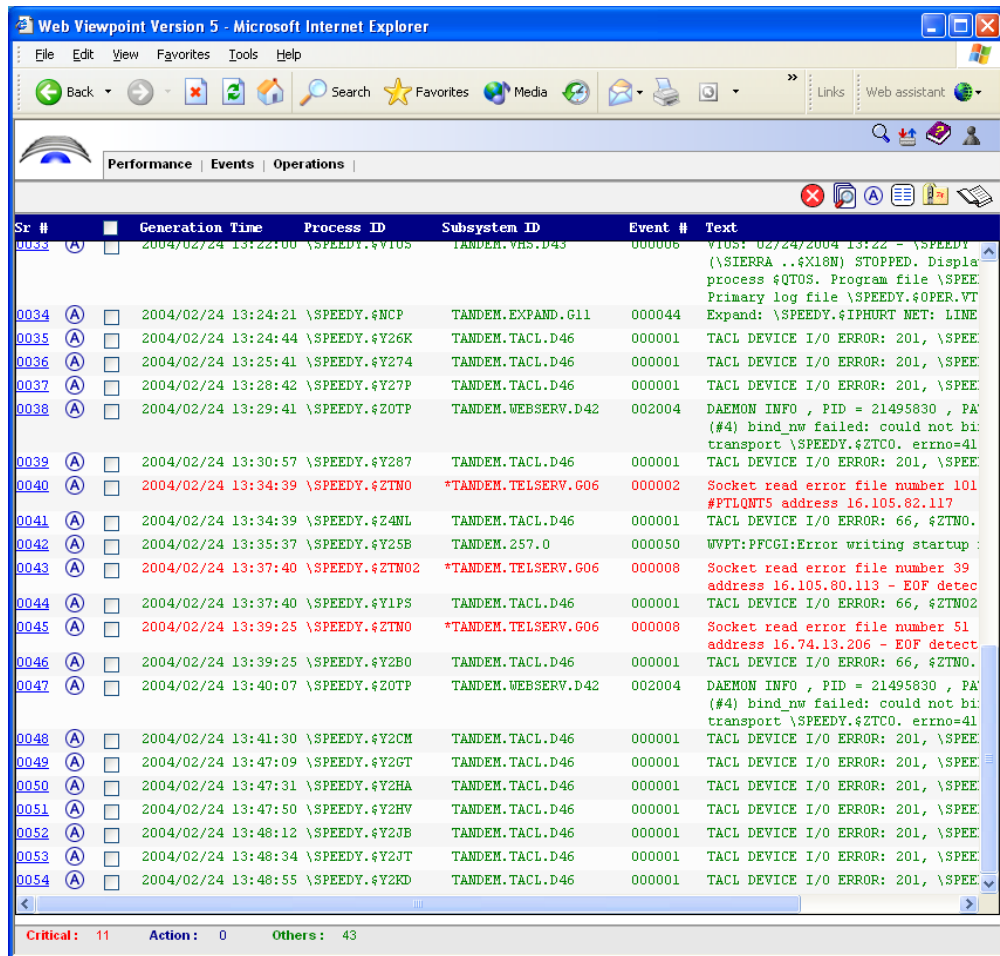

Figure 2. Real-time EMS event viewer.
- Monitor real-time EMS events from one or more EMS collectors running on one or more NonStop servers. View all messages on one window or multiple windows side by side (see figure 2).